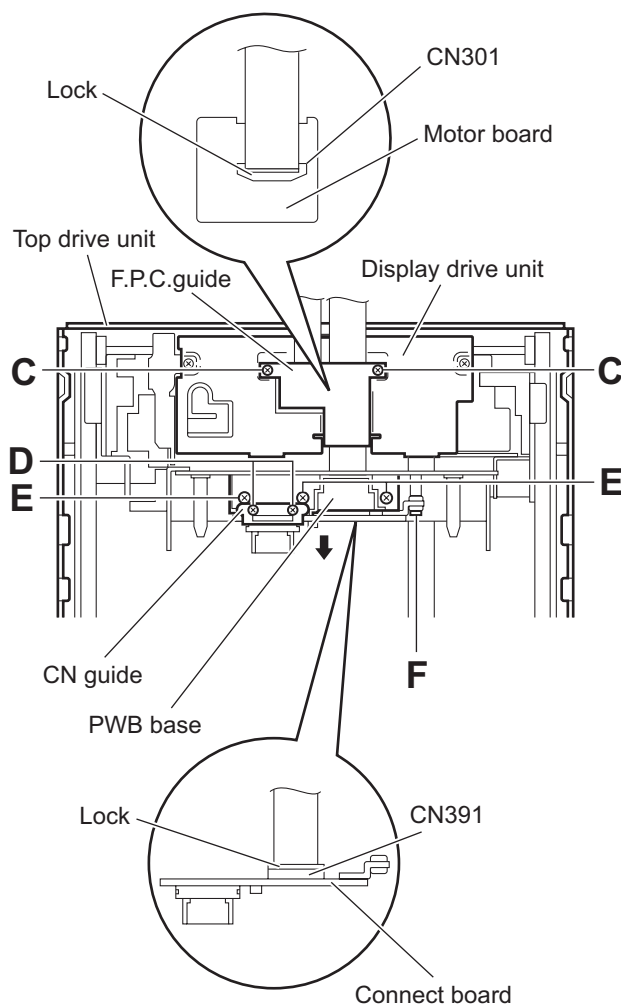

Fig.9
- (3) Remove the top drive unit from the main body and turn it inside out. (See Fig.9.)
- (4) Remove the two screws **C** attaching the F.P.C. guide on the display drive unit. (See Fig.9.)
- (5) Release the lock of the connector **CN301** on the mechanism board and disconnect the flexible wire. (See Fig.9.)
- (6) Remove the two screws **D** attaching the CN guide. (See Fig.9.)
- (7) Remove the three screws **E** attaching the PWB base. (See Fig.9.)
- (8) Remove the screw **F** attaching the connect board. (See Fig.9.)
- (9) Take out the connect board in the direction of the arrow. (See Fig.9.)
- (10) Release the lock of the connector **CN391** on the connect board and disconnect the flexible wire. (See Fig.9.)